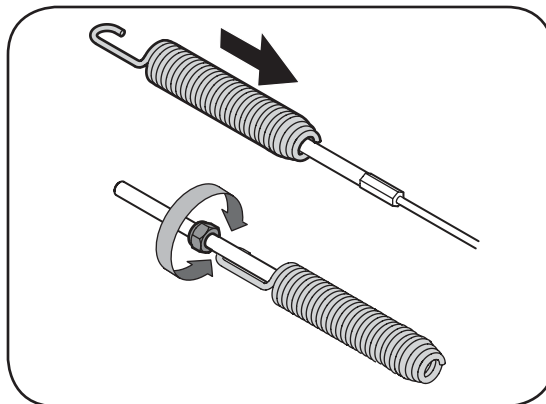

Figure 3-13
- Loosen the Nylock nut on the drive control cable and unthread the cable one full turn. See Figure 3-13.
- Push the cable coupler through the end of the spring to expose the lock nut. See Figure 3-13.